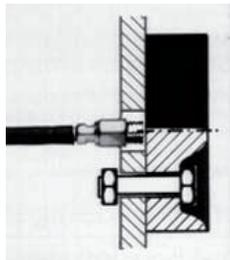

Fig. 11 Sensor without thread in standard mounting
Sensors without thread, see Fig. 11
- Tighten the locking nuts on the threaded pins carefully to avoid damaging the sensor, see Fig. 11.